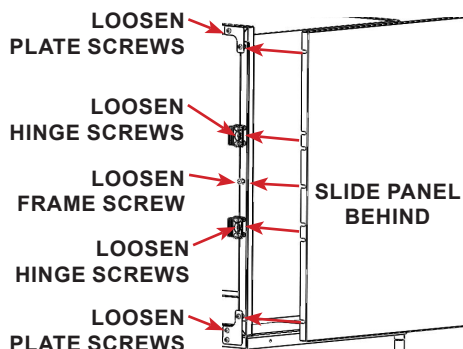

FIGURE 2.57 - End Panel Tape
**STEP 6:** Align the front flange slots with the screws in the cage frame, behind the trim plates and hinge/latch hardware. Lift cage to slide the panel under the front cage frame. Push the end panel against the side of the cage and push the front flange against the cage frame. See FIGURE 2.57